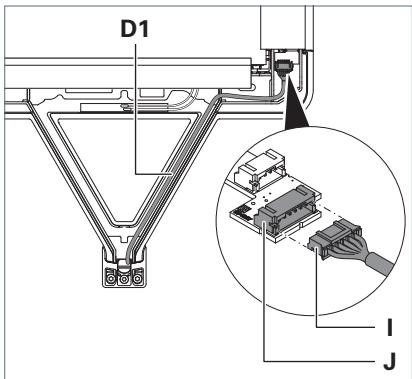

Fig. 5: Connecting the control cable.
- ▶ Lay the control cable **D1** from the column into the supporting arm of the luminaire head, see Fig. 5.